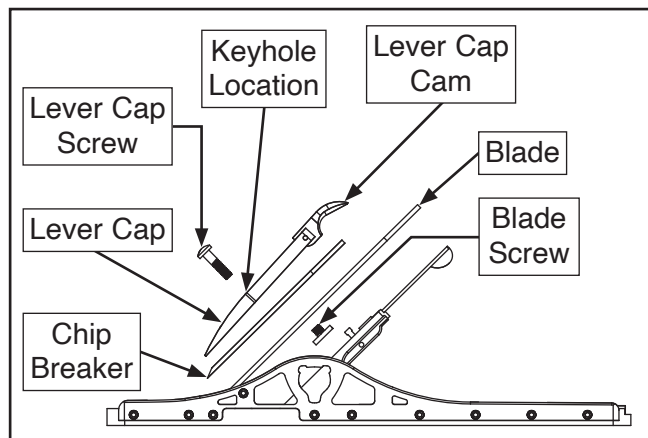

Figure 8. Blade replacement components.
1. Open lever cap cam and slide lever cap up through keyhole to remove, then remove lever cap, chip breaker, and blade (see **Figure 8**). Note which sides face up.